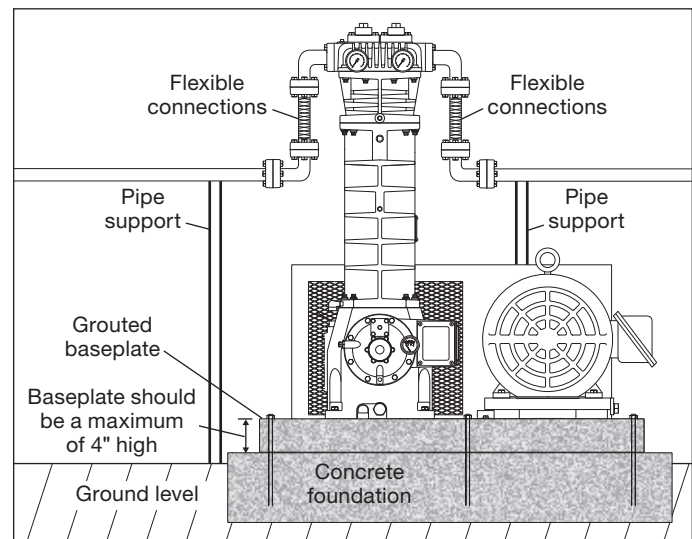

Figure 2.3A: On -107 mountings, the flexible connectors should be located near the four way valve.
**DO NOT SUPPORT PIPING WITH THE COMPRESSOR.** Unsupported piping is the most frequent cause of vibration of the pipe. The best method to minimize transmission of vibration from the compressor to the piping is to use flexible connectors (see figure 2.3A).